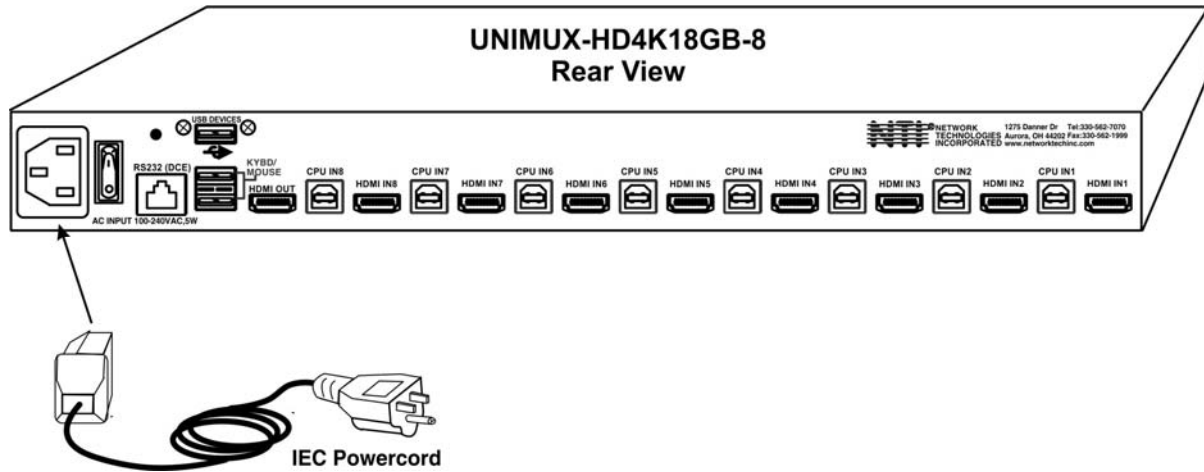

Figure 6- Connect the AC line cord
5. Connect the AC line cord to the UNIMUX. (See Fig. 6 below.)